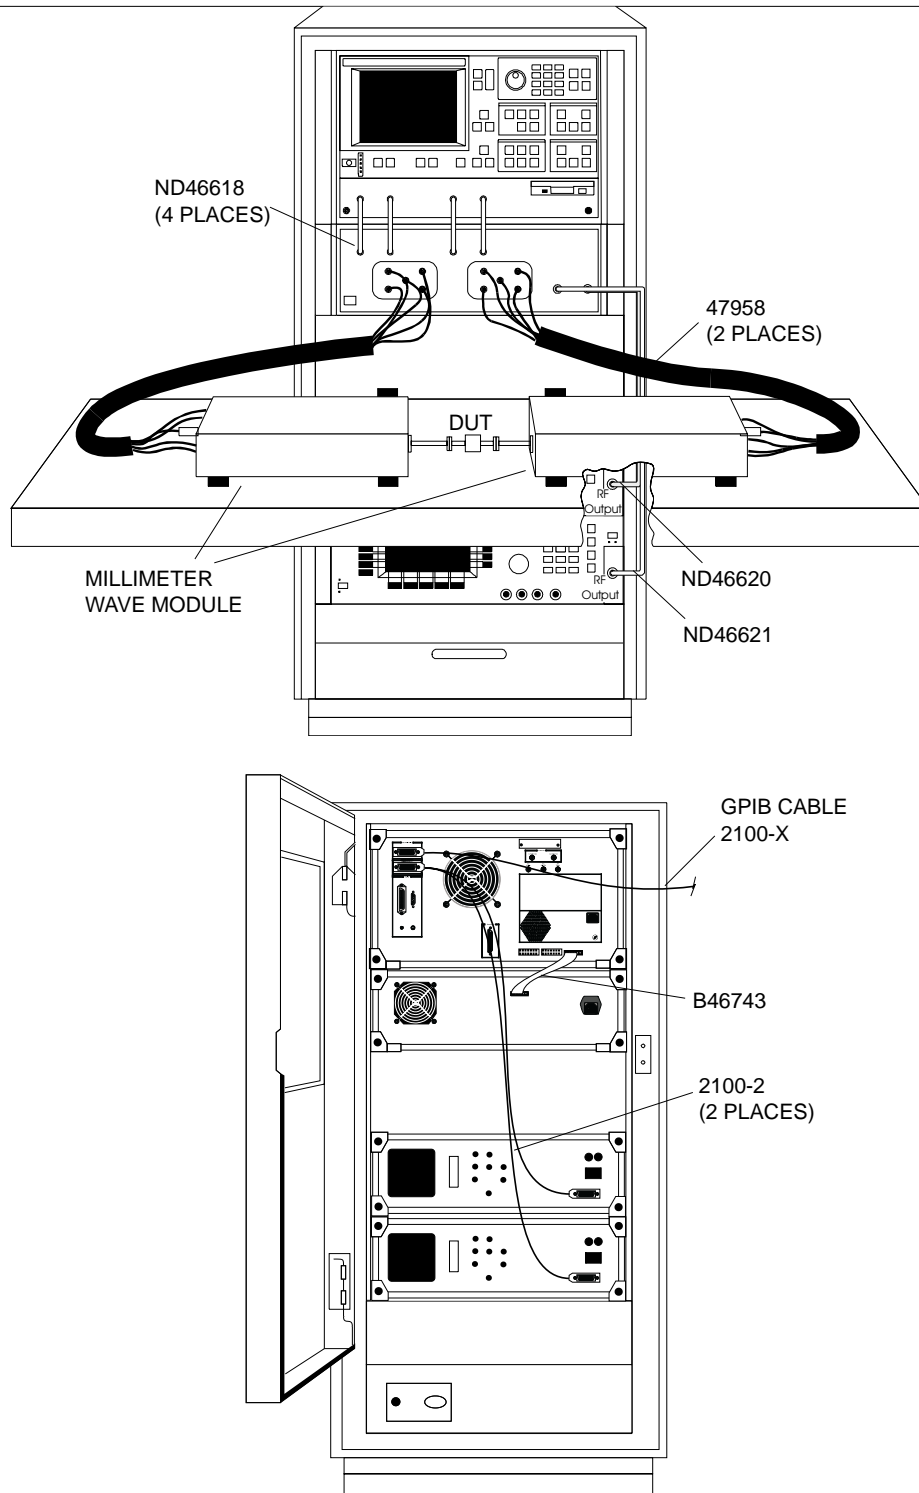

Figure 14-1. Millimeter Wave System Equipment Installation
The Millimeter Wave System requires interconnections between the 371XXC Vector Network Analyzer, 3735B Test Set, and two 680XXCor MG369XA Frequency Synthesizers. Installation in the optional 3700C3 System Console is shown in Figure 14-1. Interconnections between the various units would be the same in any other rack-mount installation. Installation procedures for the optional 3700C3 console-mounted system and for the standard bench top system are described below.
Install the 371XXC VNA, 3735B Test Set, and two 680XXC or MG369XA Frequency Synthesizers in the console, as shown in Figure 14-1. Secure with screws 900-821 (Table 14-3).
- Step 7.** From the rear, connect cables as described below (see Figure 14-1 for illustration):